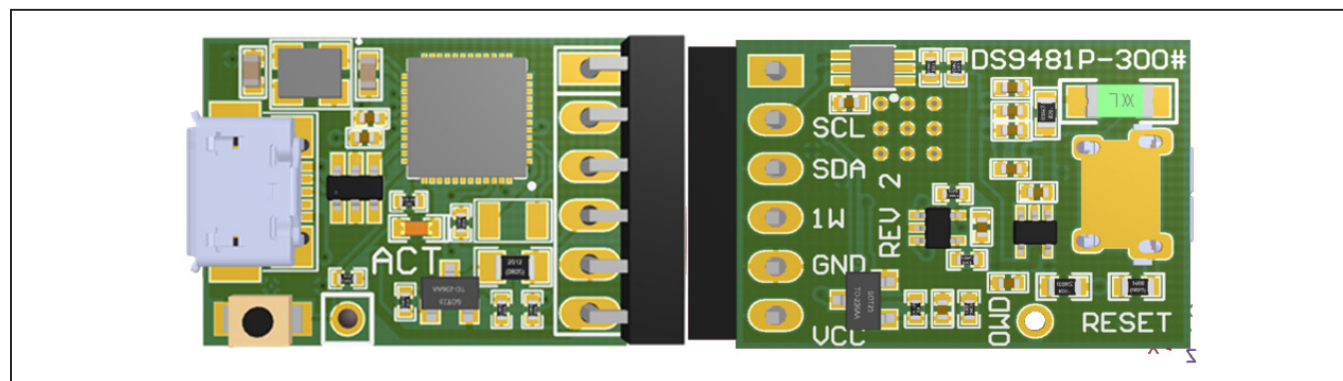

Figure 2. DS9481P-300# USB-to-1-Wire Adapter
- DS9481P-300# USB-to-1-Wire Adapter (Figure 2)